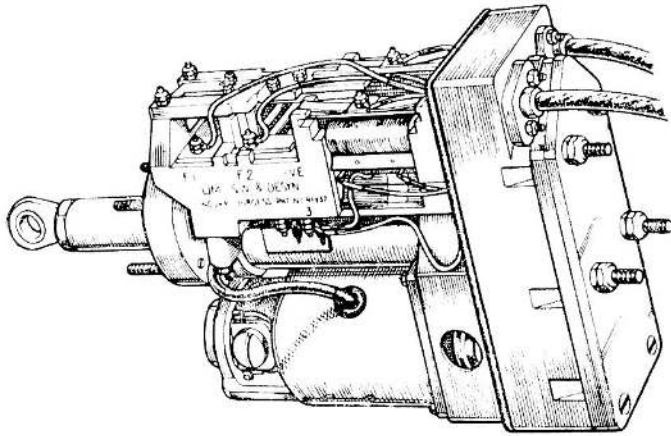

Fig. 1. Actuator, Type EA2, with cover and stop-nut removed
2. The actuator is illustrated in fig. 1, and a sectional drawing is given in fig. 2. It incorporates a 24-volt d.c. motor, fitted with a brake, which drives through an overload clutch a train of spur gears which terminates in a worm and nut drive to the operating plunger.